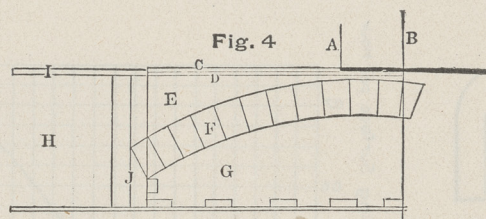

Fig. 4
air space (G) under the brick arch. Over brick arch a concrete (E) of gravel, sand and cement should be put in, level-off at a sufficient distance below level of floor to admit of the cement (D) and tile hearth (C) to be placed. (I) in Fig. 4 represents floor (H) is the joist
If all fire-places were built as in Fig 4 there would be almost a total freedom from fires from defective construction or criminal heedlessness or stupidity.